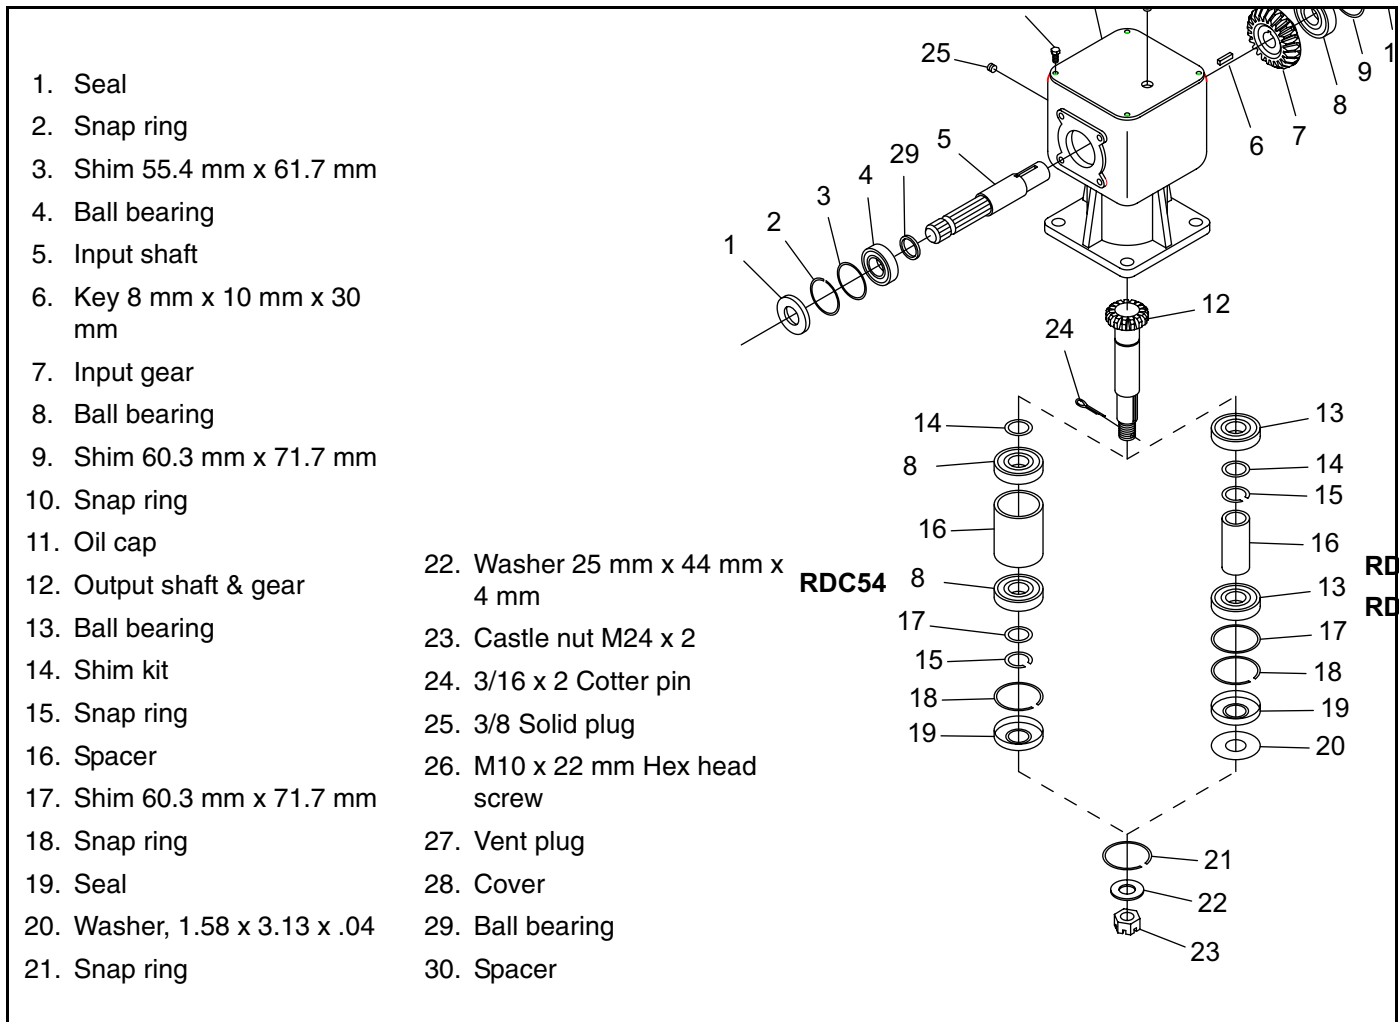

Figure 16. Gearbox Assembly
2. Remove vent plug (27), Figure 16, and siphon gear lube from housing through this opening.
3. If the leak occurred at either end of horizontal shaft, remove oil cap (11) and/or oil seal (1). Replace with new one (see Seal Replacement, page 21).
1. Remove top cover (28), Figure 16, from housing. Turn gearbox upside down and pour out remaining gear oil from gearbox.
2. Remove oil cap (11) (to be replaced).
3. Remove snap ring (10) and shim (9) from input shaft (5).
4. Support gearbox in hand press and push on input shaft (5) to remove bearing (8).
5. Remove gear (7) from inside housing.
6. Remove oil seal (1) from front of housing (to be replaced).
7. Remove snap ring (2) and shim (3) from front of housing.
8. Remove input bearing (4) by using a punch and hammer from outside of housing.
10. The castle nut (23) and cotter pin (24) are already removed with the drive sheave. Remove the snap ring (18), washer (20), and seal (19).
11. Remove output shaft (12) and bearings by using a punch and hammer and tap on top to drive down.
Refer to Figure 16.